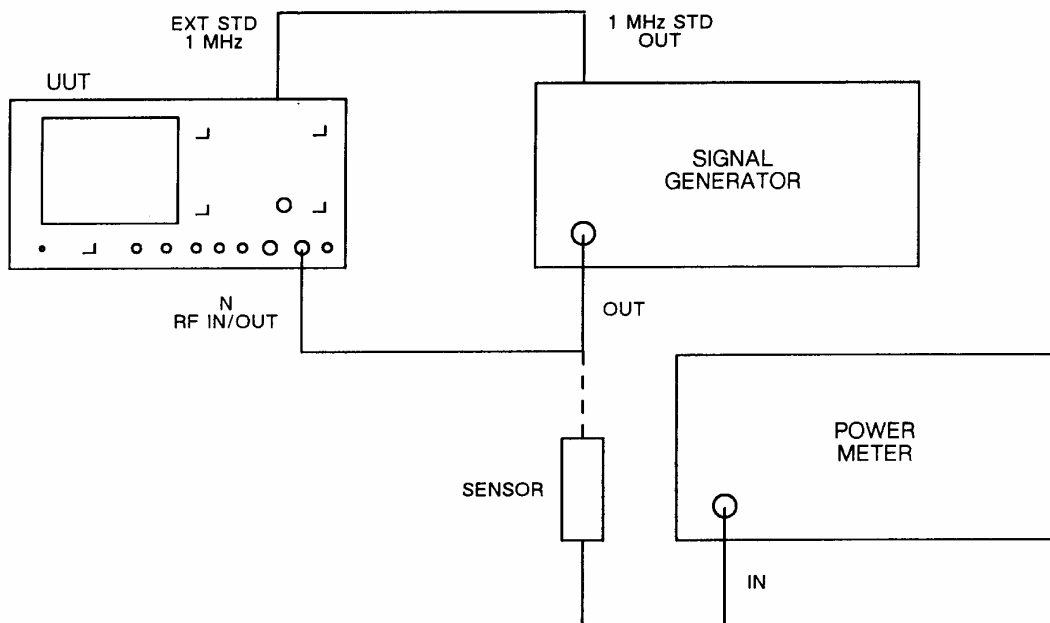

Fig. 5-1-10 Test equipment connections for RF frequency meter input sensitivity performance checks
- (3) Connect the power meter to the signal generator output (see Fig. 5-1-10) and adjust the RF level to give 5 mW indication on the power meter.